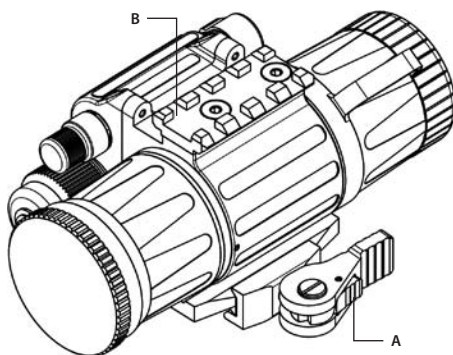

FIGURE 2-1. CO-MINI NIGHT VISION CLIP-ON DEVICE AS DELIVERED
The CO-MINI consists of two primary parts: the night vision device (hereafter referred to as “NVD”), and the quick-release mount, or mount. The CO-MINI is delivered as shown in Figure 2-1: the mount (A) and top Weaver rail (B) should be secured on the NVD seating rails with M4x8 screws.